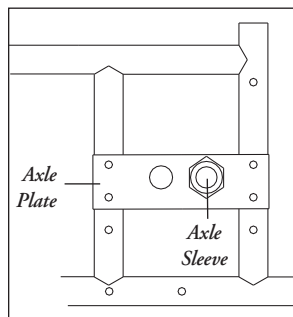
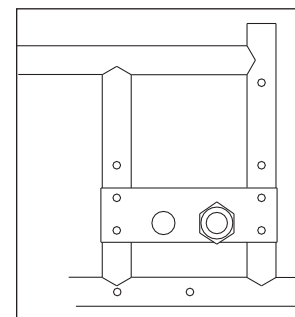

Figure 9
Figure 11
1. Center of Gravity (Fig. 9)
3. Seat Height Adjustment (Fig. 11)
To adjust the seat height, invert the axle plate and move vertically to align with the appropriate predrilled frame holes. Compare figures 9 and 11. Figure 9 represents the short seat height. Figure 11 represents the tall seat height. This adjustment allows a 1.5" vertical seat height adjustment.